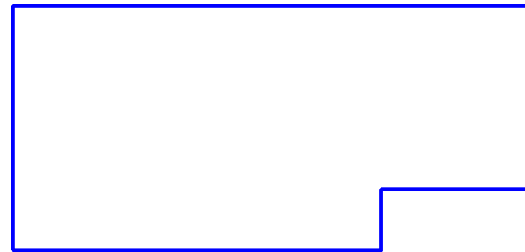

**Fig. 1**
Step 2. Click **Front Plane**  in the Feature Manager and click **Sketch**  on the context toolbar, **Fig. 1**.
Step 3. Click **Line**  (L) on the Sketch toolbar.